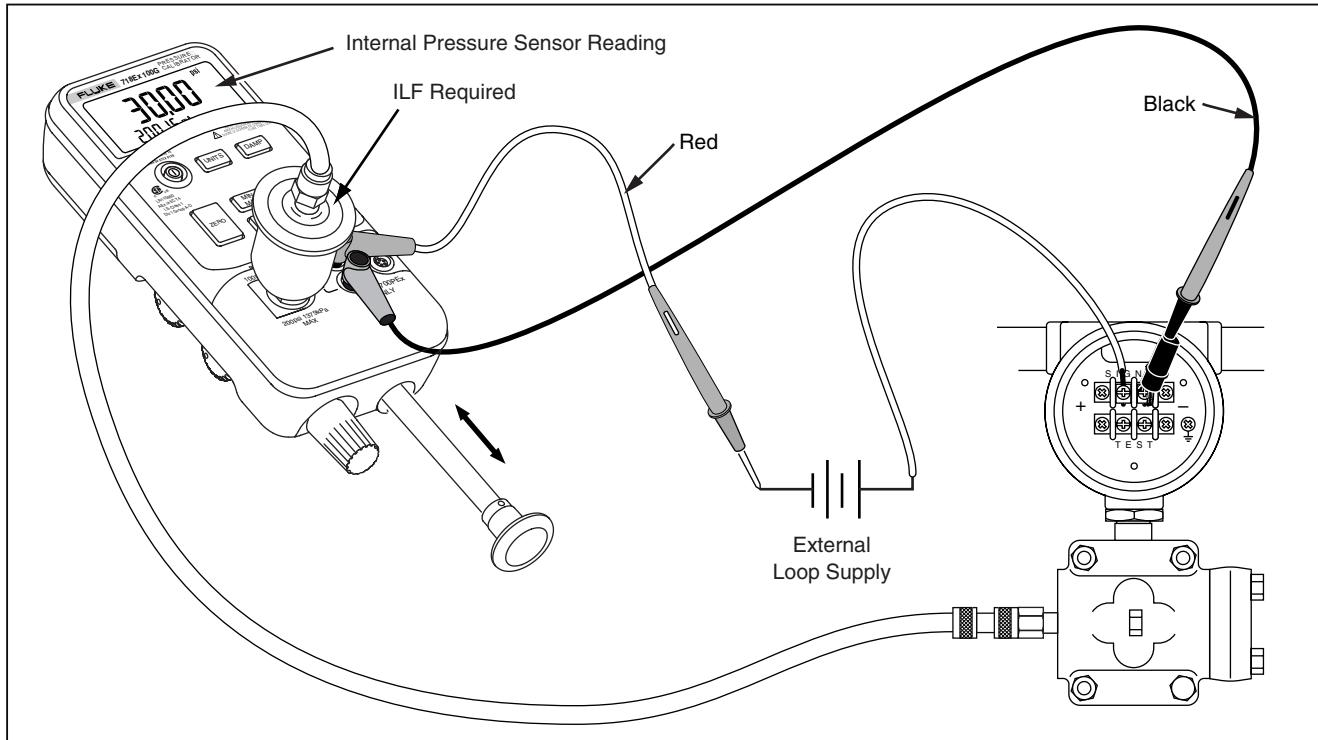
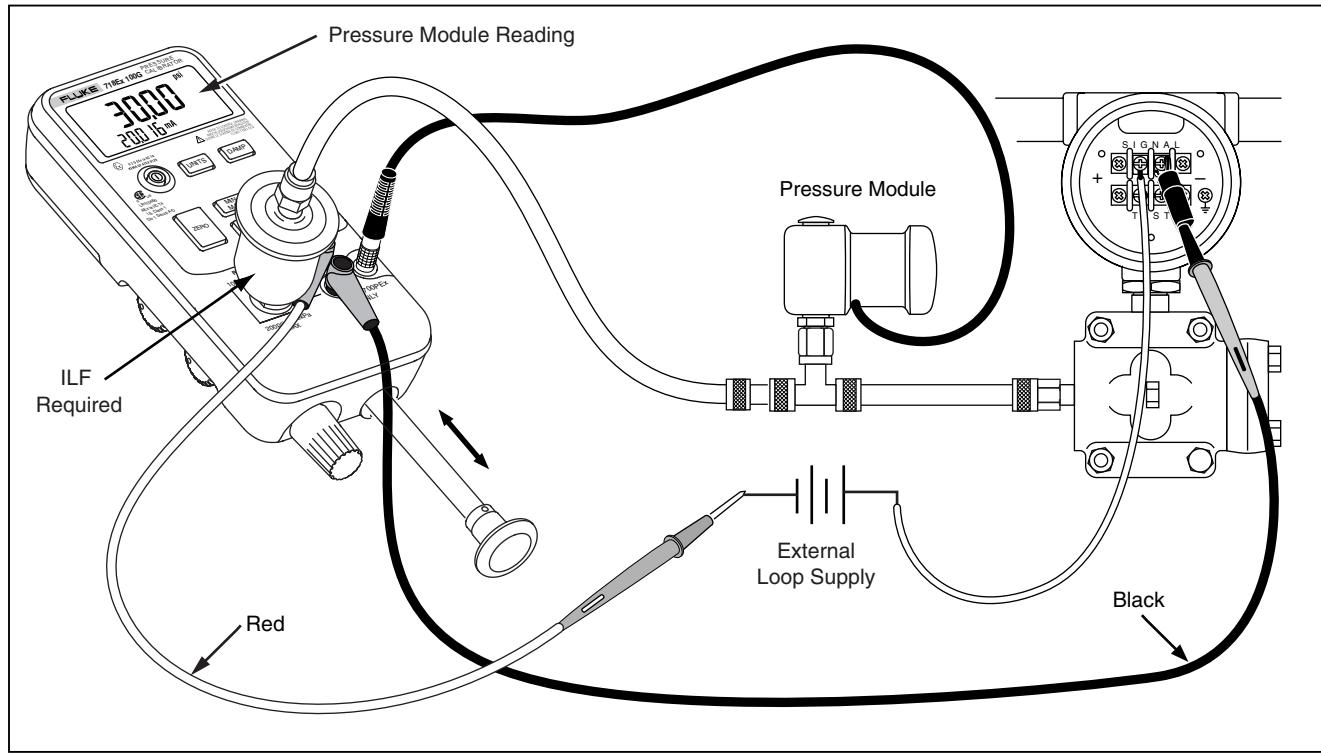

Figure 4. Internal Pressure Sensor with Internal Pump
Figure 5. Pressure Module with Internal Pump
The preferred use for the internal pump is shown in Figure 4, where the Calibrator displays pressure measured with the internal sensor and provided by the internal pump.
The internal pump can also be used with certain Fluke 700PEx Series Pressure Modules. In this case, pressure measured by the pressure module is displayed by the Calibrator. Appropriate pressure modules for each Calibrator model are identified in Table 4. Figure 5 shows the internal pump being used with a pressure module.
2. Connect the pressure transmitter under test to the Calibrator internal sensor as shown in Figure 4 (for internal pressure sensor measurements) or Figure 5 (for pressure module measurements.)